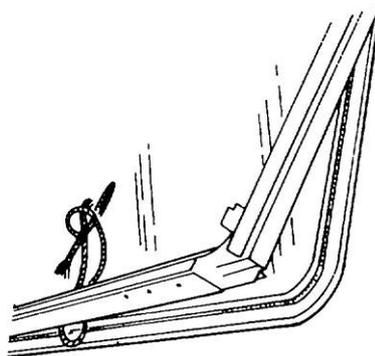

Figure 162 Installation of the Windscreen Glass
- g. Position the windscreen glass and rubber in the frame (Figure 162) ensuring that the etched motif on the glass is toward the bottom of the frame.